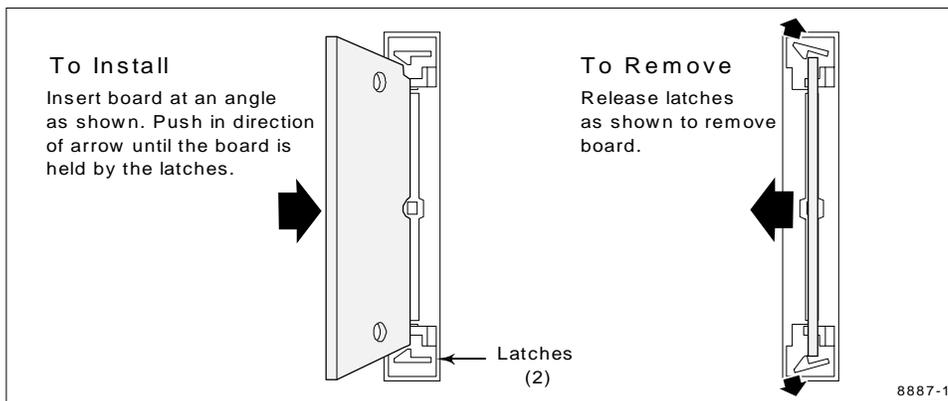

Figure 24. Installing or Removing the Memory Board
5. Plug the new memory board into its socket and latch in place (refer to Figure 24). (If a memory board is currently installed in the socket, remove it first.)